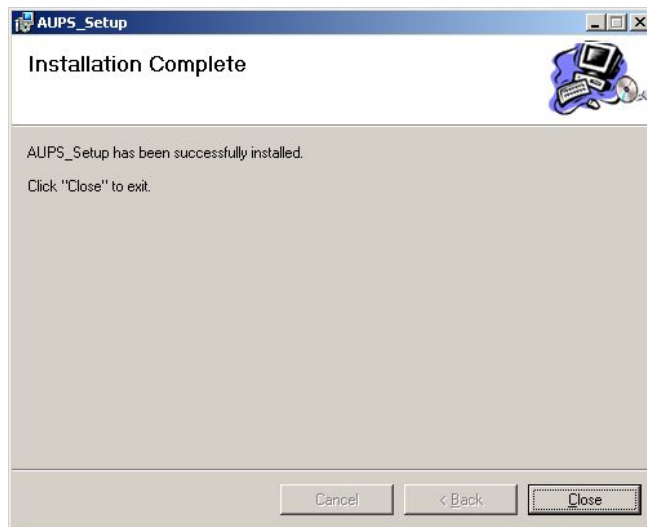

Figure 7-5: Installation Complete
Step 6: The Installation Complete window appears (**Figure 7-5**). Click **Close** to exit.